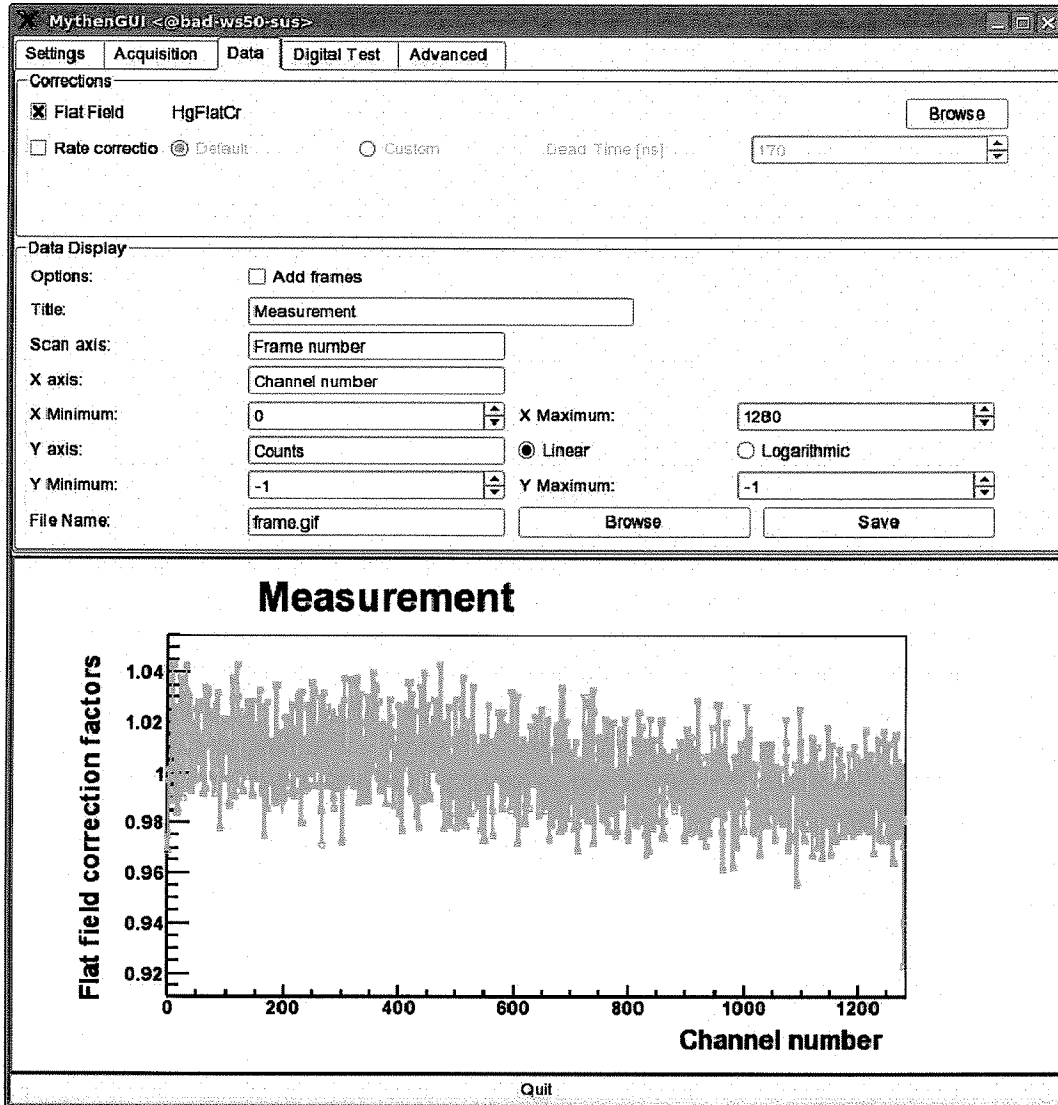

Figure 7 Data tab showing correction factors of the flatfield correction
- **Browse:** Used to select a user specific .raw data file, from which the flatfield correction factors will be computed (Figure 7).